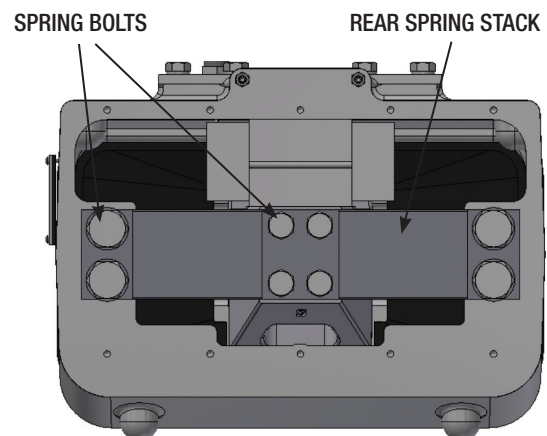

Figure 13
2. Remove rear spring bolts, spring clamps, spacers and springs. (**See Figure 13**)